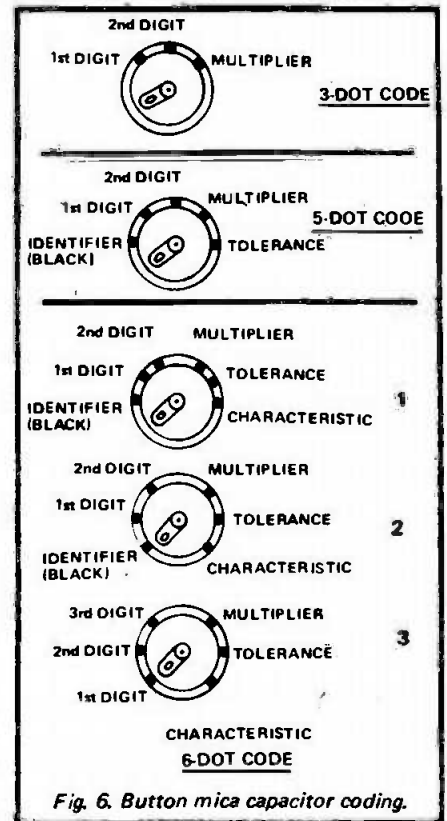

Fig. 6. Button mica capacitor coding.
**Button Mica Capacitors:** The characteristics of button mica capacitors are indicated by a system of three, five or six dots on the rim of the component. These are illustrated in Fig 6. The value and characteristics are obtained from Table 1.
Note that there are three six-dot codes. Numbers 1 and 2 are for standard tolerance capacitors but number 3 in Fig 6 is for close tolerance, high stability types where the capacitance is specified to three significant figures.